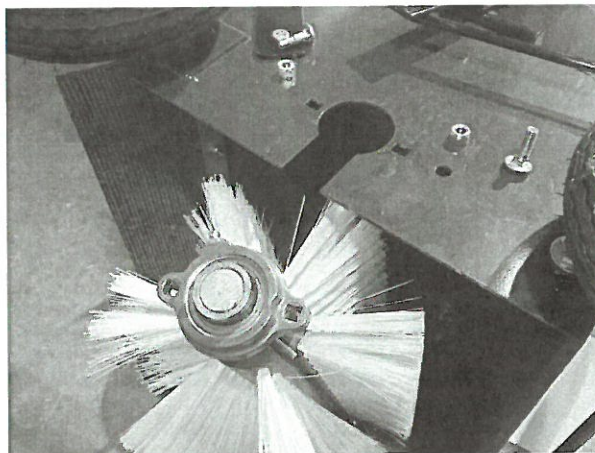

FIGURE 3
3. Slide the brush shaft out of the main frame (Fig. 3).